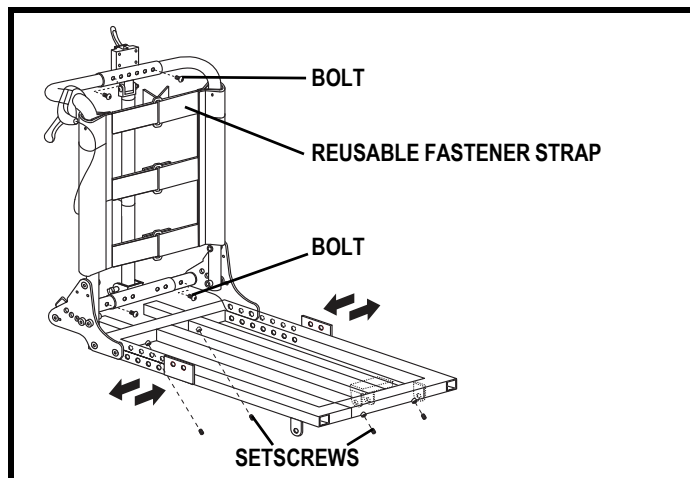

Figure 13. Seat Width Adjustment
2. Loosen the four setscrews on the seat base. See **figure 13**.